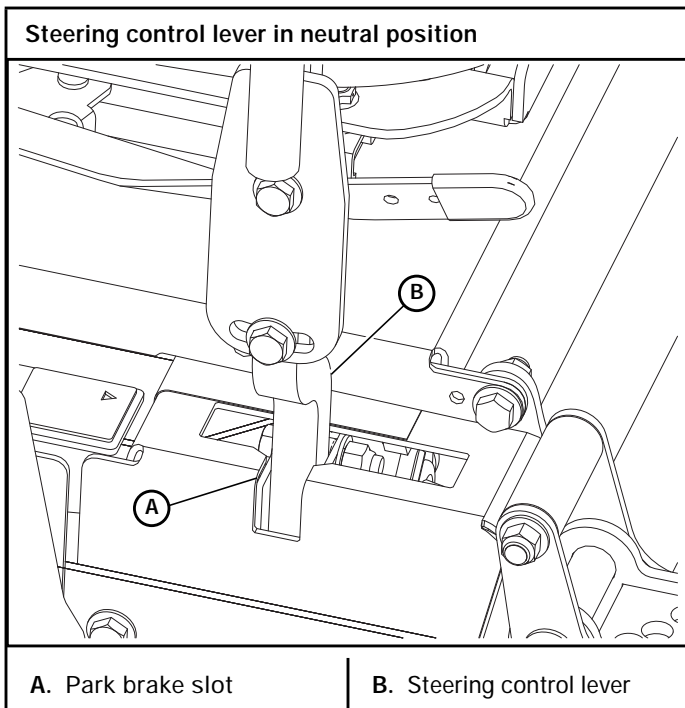

Figure 6-2
5. Position the steering control lever in the neutral position and observe which way the wheels are rotating. Figure 6-2